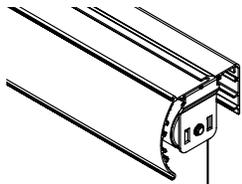

Figure 12A.
Step 10. To install, insert the pin on the end plug into the center hole of the cassette bracket shown in **Figure 12A**. While putting pressure on the spring pin install the motor end onto the other bracket. The spring pressure will allow the tabs on the motor end to seat into the cassette bracket as shown in **Figure 12B**.